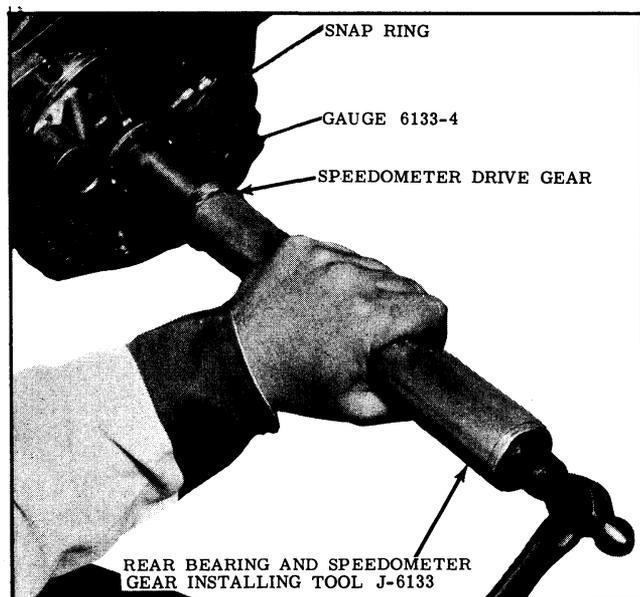

Fig. 3-140 Installing Speedometer Drive Gear
1. Install the speedometer drive gear on the output shaft with Tool J-6133 and use gauge J-6133-4 to locate gear on the shaft. (See Fig. 3-140)